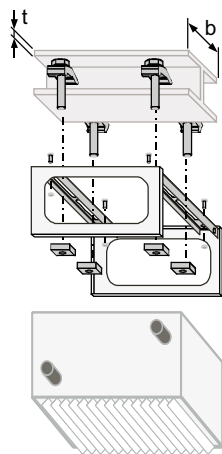

Fig. 1
- Fig. 1 and 2:
- Fit suspending rails to the steel bar with enclosed clamping jaws, as shown in fig. 1 and 2.